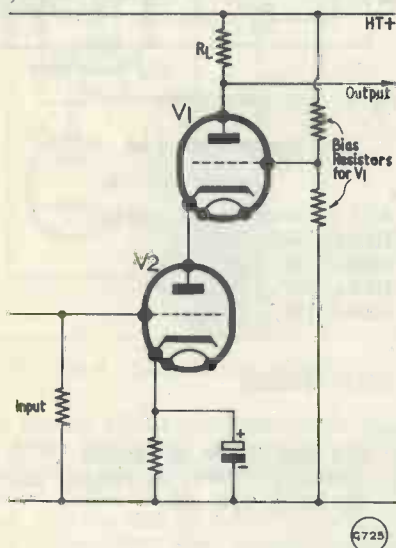

Fig. 6. Stabiliser section
V₂ and V₃ in the circuit of the stabiliser section shown in Fig. 6 are the two series control valves, connected in parallel. These types are the well known television line output valve, the Mullard EL81, ideally suited to this purpose. Parasitic "stopper" resistors are connected in the anode, screen-grid and control-grid circuits of each valve.
Although optional, the use of a 1mA moving coil meter is recommended and serves the dual function, when connected as shown in Fig. 6 of voltmeter (0-500V), and milliammeter (0-200mA), the appropriate scale being selected by means of S_3 . This switch operates as meter scale selector, and is so connected that the h.t. voltage may be read, and adjusted prior to switching the h.t. on by means of S_2 . In one position, the meter is connected in series with R_{21} , the meter multiplier, to read 500V full scale. When the other position is selected, the meter is connected in parallel with R_{25} , a 0.5Ω shunt resistor, and then reads 0-200mA full scale.
(1) The negative side of the supply and stabiliser should not be electrically connected to the chassis. Any existing earthed connections of this sort must be lifted off the chassis and carried by means of terminal strips in the same manner as the positive high tension leads. The only earthed link is taken from the wiper of S_4 as indicated in Fig. 6. As mentioned earlier the earthed cans of the electrolytic capacitors, C_1 , C_2 , C_3 , C_4 must be insulated accordingly, and the only permitted exception to this rule is the earth connection to the screen of the transformer which, being connected to the laminations in some makes of transformers, should be bonded to chassis.
(2) Parasitic stopper resistors R_8 , R_9 , R_{10} , R_{11} , R_{12} , and R_{13} , should in each case be mounted close to the appropriate valve pin. Because the EL81 valve has a top cap anode connection, stoppers R_9 and R_{11} can be soldered directly to the top cap connectors at one end, the wire downloads being taken from the other ends of the resistors.
(3) The series-connected electrolytics, which may have to be added as replacements in some existing power supplies, should be mounted clear of the rectifier and series valves, which tend to operate at a fairly high temperature. Enlarging on this theme it is important to ensure that the entire unit is adequately ventilated, since it has to dissipate up to about 100 watts or so.